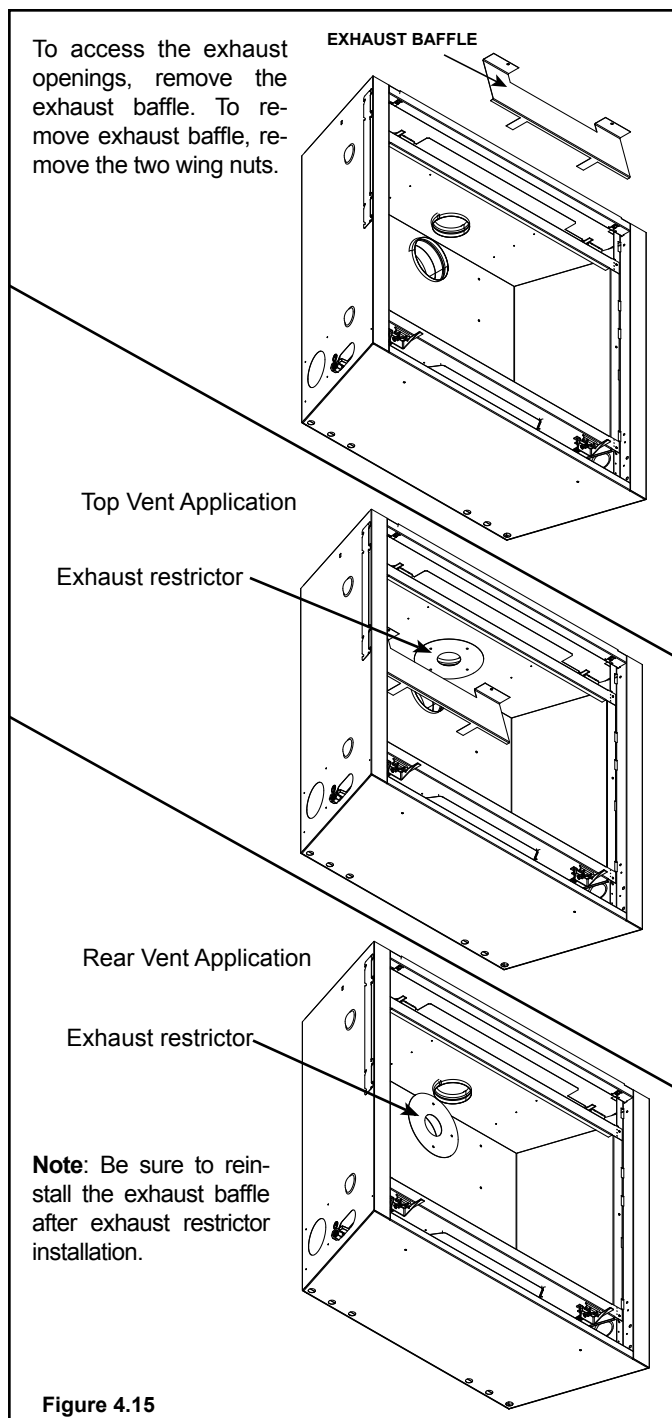

Figure 4.15
1. Install the exhaust restrictor over the center of the exhaust outlet in the firebox. See Figure 4.15.